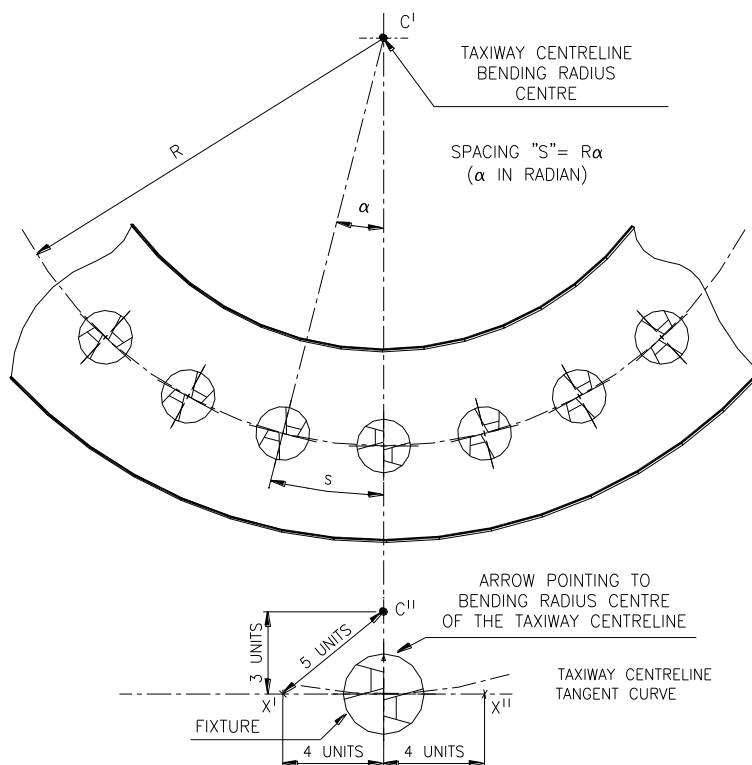

Figure 13 – Curved section light alignment
1. Using the scheme in Figure 13 determine the radius (R) of the curve and mark the taxiway radius centre (C').
2. Determine longitudinal spacing (S) between lights. Table 2 is taken from FAA AC 150/5340-30 normative, Table 3 from ICAO Annex 14 – Volume 1.
3. Locate and mark the location of each light (C) on the taxiway centreline.
6. Mark two arcs of 1.2 m radius (or 4 units) from the centre of the light location (C) so as to intersect the first arc, and form a "X" in two places (X' - X'').